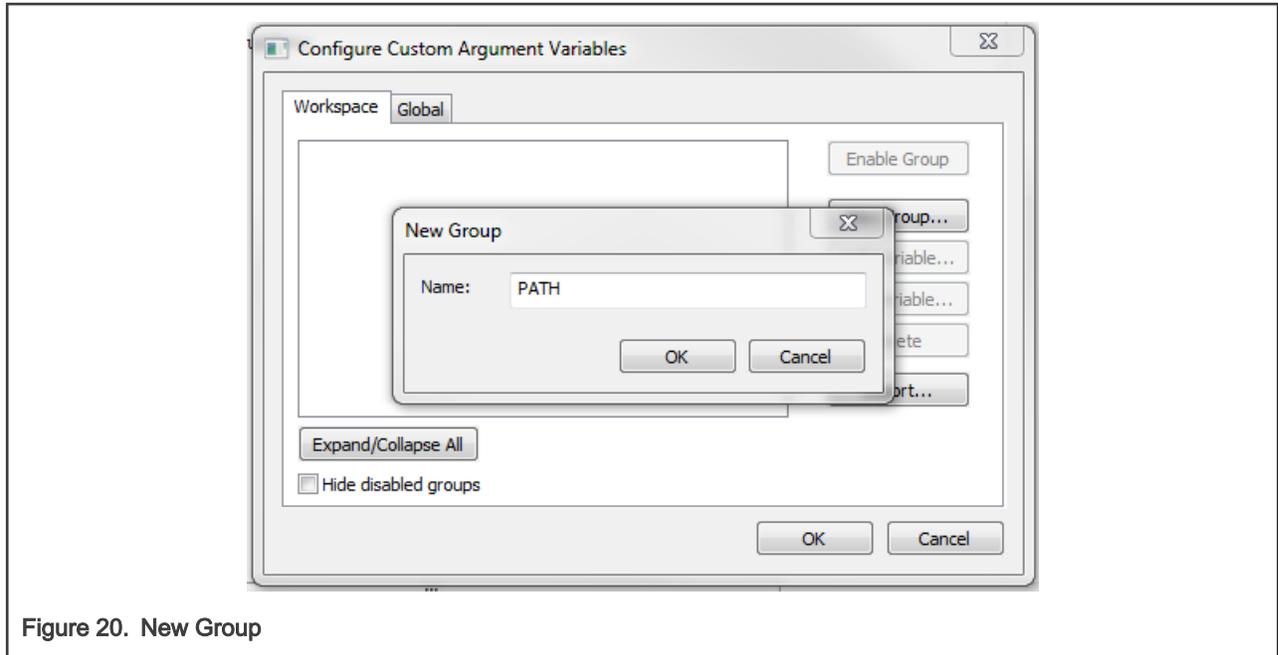

Figure 20. New Group
2. Click the New Group button, and another dialog appears. In this dialog, type the name of the group PATH, and click OK. See Figure 20.